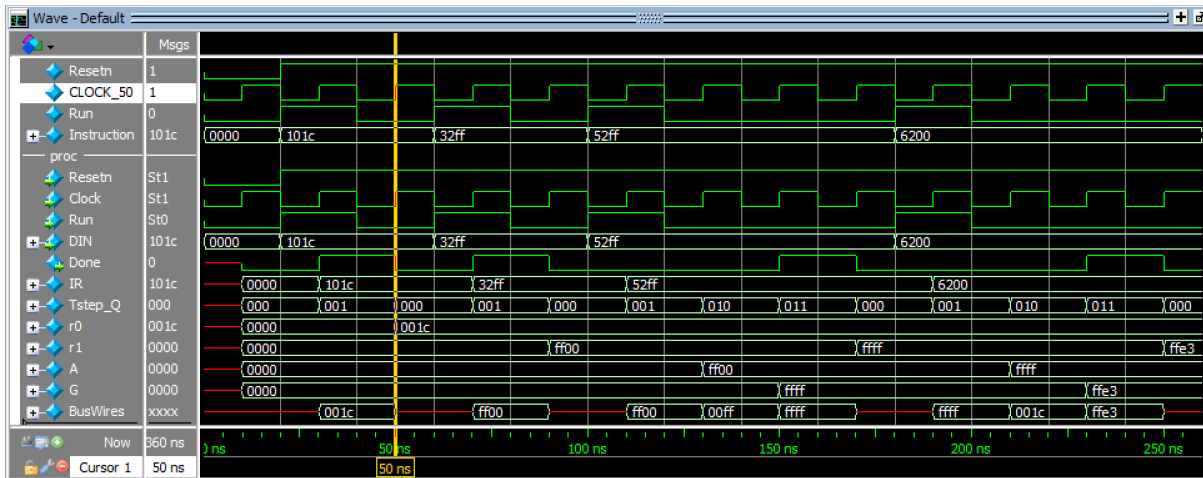

Figure 3: Simulation results for the processor.
2. Set up the required subfolder and files so that your Verilog code can be compiled and simulated using the ModelSim Simulator to verify that your processor works properly. An example result produced by using *ModelSim* for a correctly-designed circuit is given in Figure 3. It shows the value 0x101C being loaded into *IR* from *DIN* at time 30 ns. This pattern represents the instruction `mv r0, #28`, where the immediate value *D* = 28 (0x1C) is loaded into *r0* on the clock edge at 50 ns. The simulation results then show the instruction `mvt r1, #0xFF00` at 70 ns, `add r0, #0xFF` starting at 110 ns, and `sub r1, r0` starting at 190 ns.